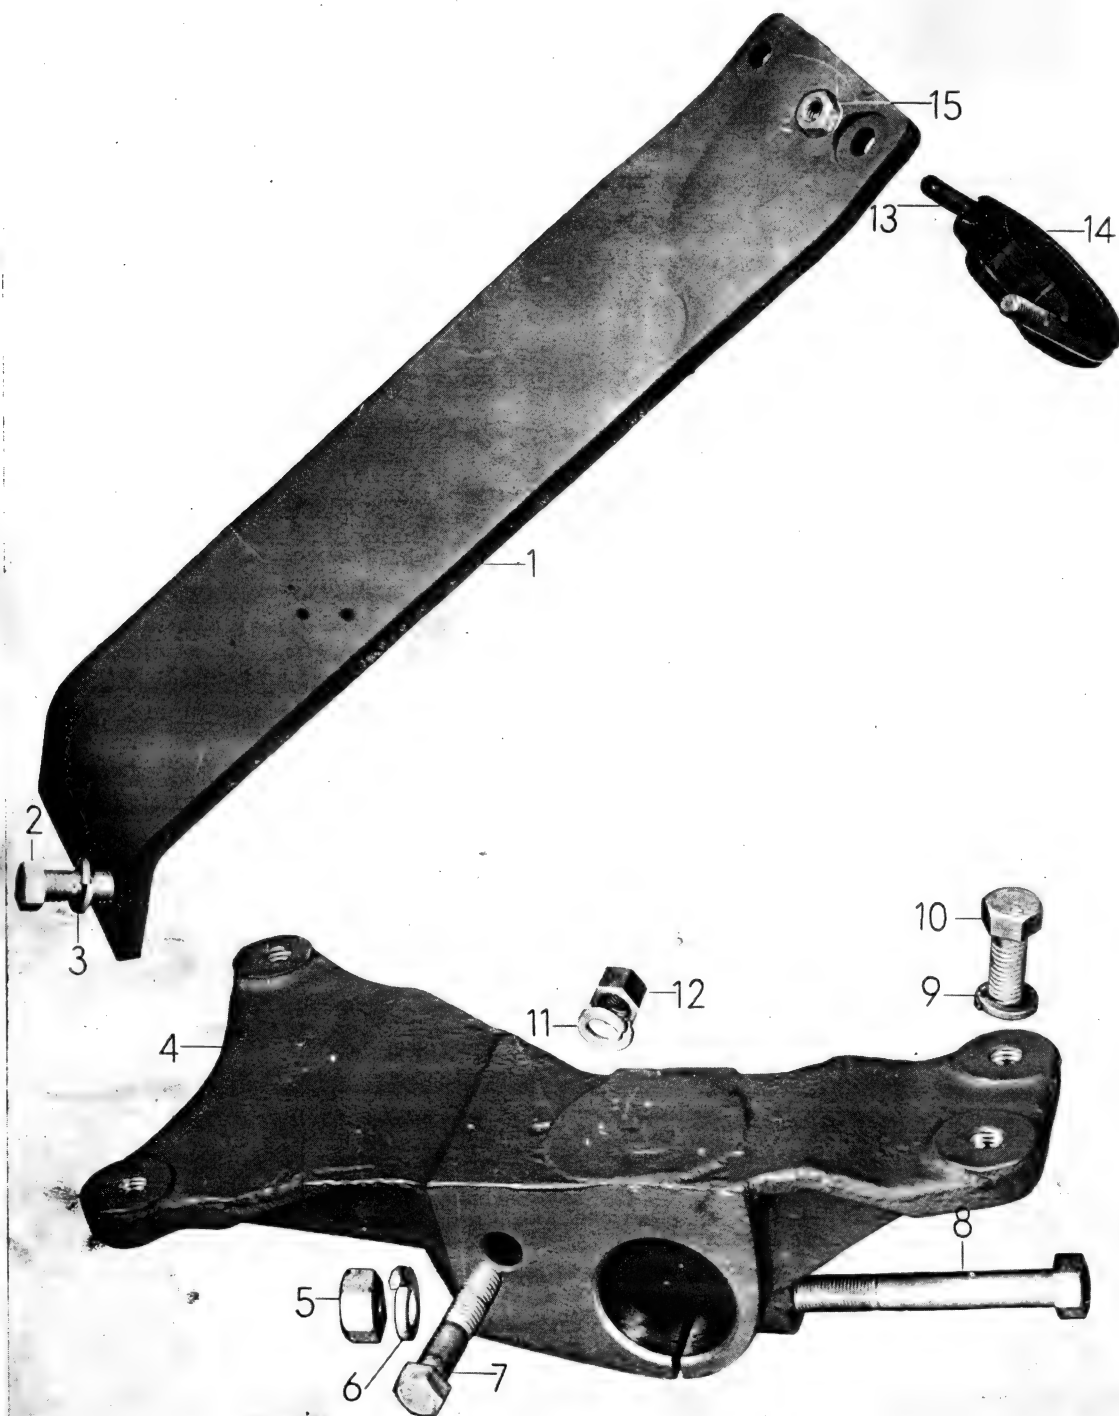

Figure 33 — Steering Gear Support Brackets
**STEERING GEAR SUPPORT BRACKETS (Fig. 33)**